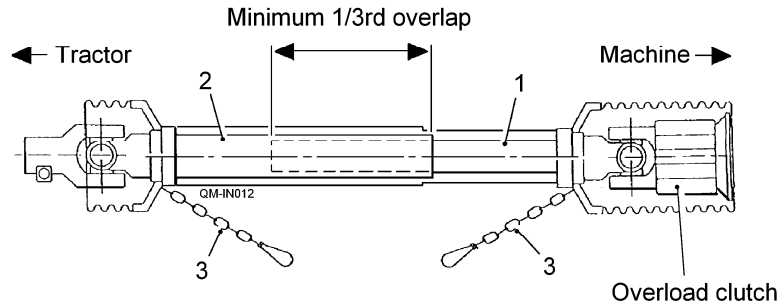

Fig. 2
1. Separate the male shaft (item 1, fig. 2) and female shaft (item 2, fig. 2) and fit them to the tractor and harvester respectively.
7. Finally, attach the safety chains (item 3, fig. 2) to secure anchoring points on the tractor and machine ensuring that the chains will not over-tighten when the machine is turning.